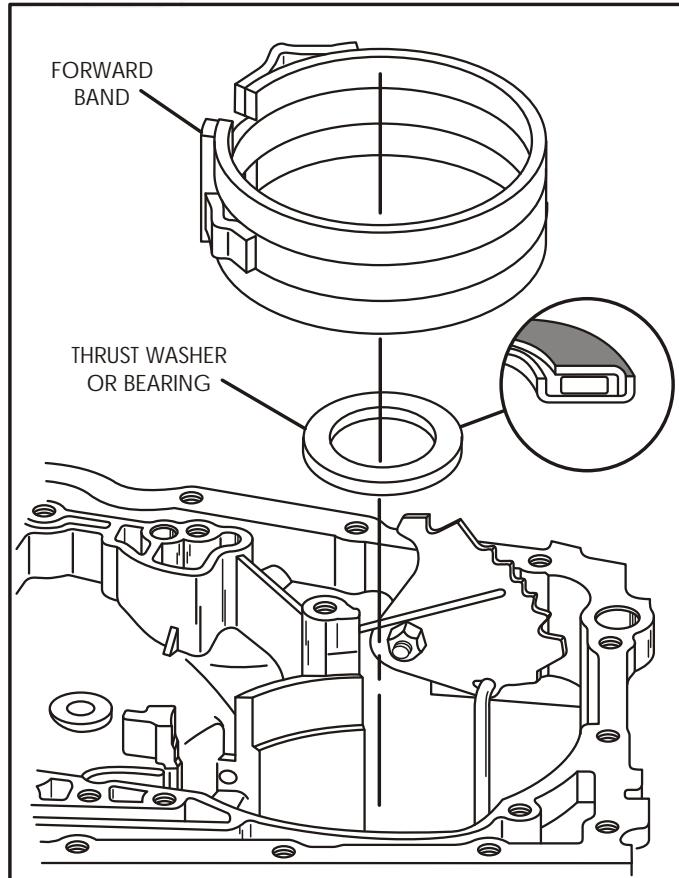

Figure 155
33. Install the thrust washer onto the final drive ring gear, as shown in Figure 155.
*Note: The transaxle may have a thrust washer or thrust bearing in this position. If it has a thrust bearing, install with black side up, as shown in Figure 155.*
34. Install the forward band assembly into the case ensuring that it is engaged on the band anchor (See Figure 155).